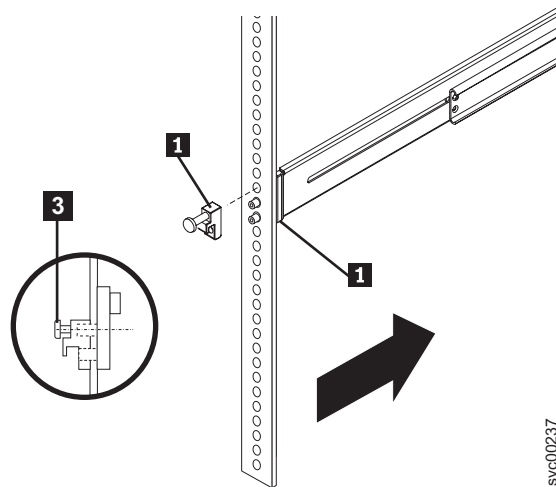

Figure 49. Removing the latch strike from the front of the slide rail
1. Loosen and remove the captive screw **3** and latch strike **1** from the left rear mounting flange, as shown in Figure 49 on page 69, to release the slide rail **2**. Loosen and remove the captive screw from the right rear mounting flange and release the other slide rail in the same way.